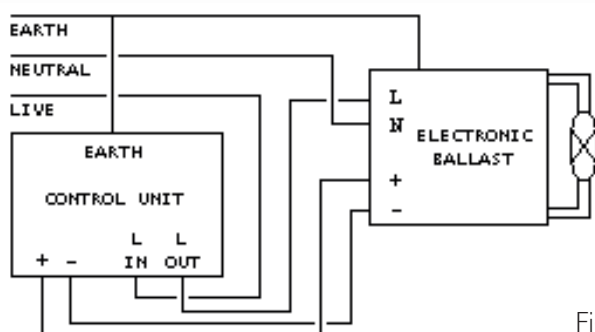

Fig 1.
This unit is designed to be used with the control unit (stock code 51-959, not included). To wire the controller to the script light follow Fig 1. The control unit has an ivory finish. For the control of more than one lamp and further wiring information - please read installation instructions supplied with the OSRAM control unit itself. In addition, a 46mm minimum depth single gang steel flush mount back-box will be required (49-578).
There are 4 screw terminals. (2 for the DC and also 2 for the LIVE IN and switched LIVE OUT. Refer to the control unit instructions and Fig 1). All take one 2.5mm2 solid or stranded cable, or two 1.5mm2 solid or stranded mains rated cables.
**WARNING – Care should be taken when connecting the mains, ensuring the mains connection is only made to the correct terminals. Observe polarity of DC connections. Ensure that the steel back-box and electronic ballast circuit is earthed as per Fig 1. The mains switch may be a separate item, chosen to match existing decor – in this case the LIVE IN and switched LIVE OUT terminals of the control unit should be ignored.**